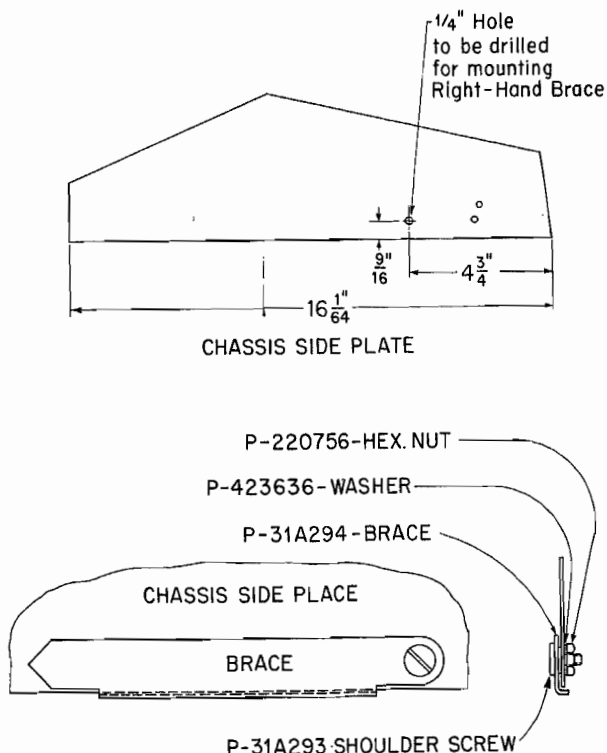

Fig. 4 — Installation and Assembly of Supplementary Keyshelf Brace for 507-type PBX Not Provided with Two Keyshelf Braces
4.13 The first 507-type PBX to be manufactured were not provided with a supplementary keyshelf brace on the right side of the chassis. If the PBX is not equipped with a brace, a P-31A294 brace should be installed in the field. Drill a hole in the chassis and install the required parts. The location and size of this hole and the assembly of parts are shown in Fig. 4. The material to modify one switchboard is as follows: